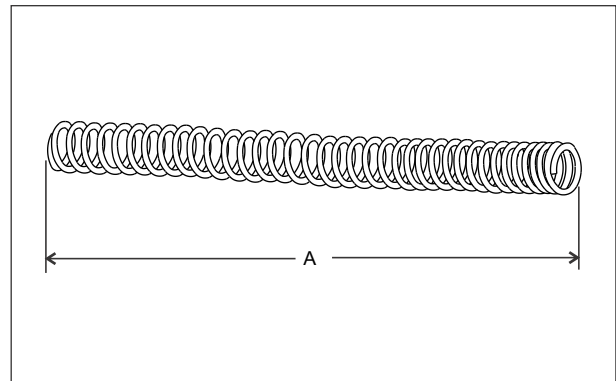

Fig. 6.62
- ▮ Measure the free length (A) of the spring front fork. If the length is shorter than service limit or deformation of spring, replace it with a new one. (Fig. 6.62)